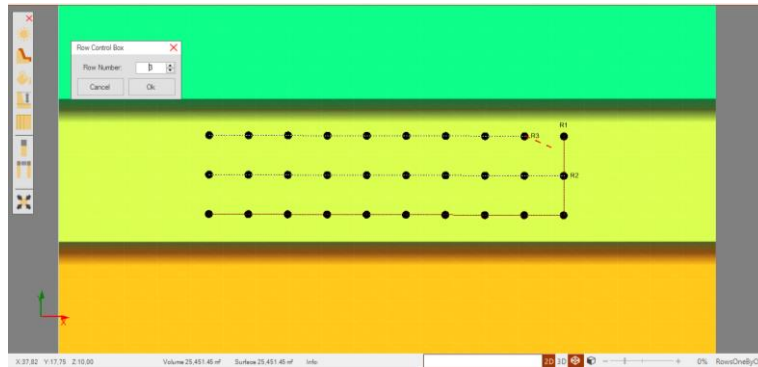

Fig. 187 - Line Editor: One by one
- Hole by hole: The user must define the row number in the **Row Control Box** and drag the mouse over a hole to assign a row ID (Fig. 187).